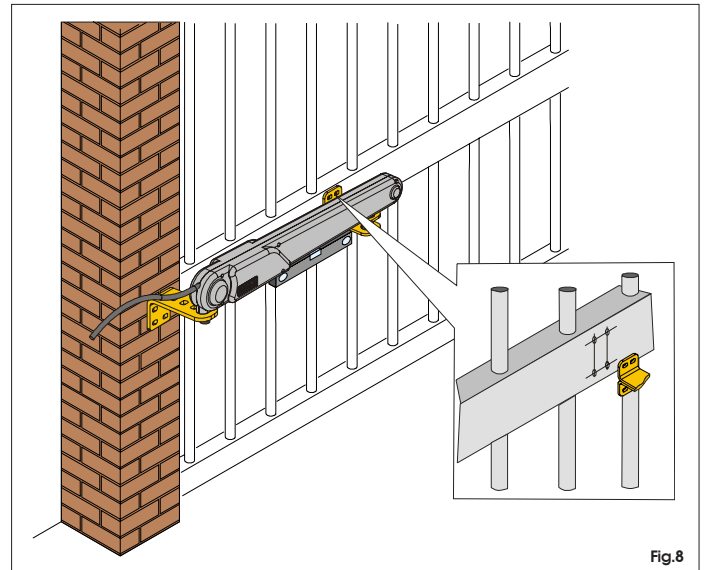

Fig.8
- Rest the fitting on the leaf and mark out the fixing points checking if the operator and the fitting are perfectly horizontal (Fig. 8).